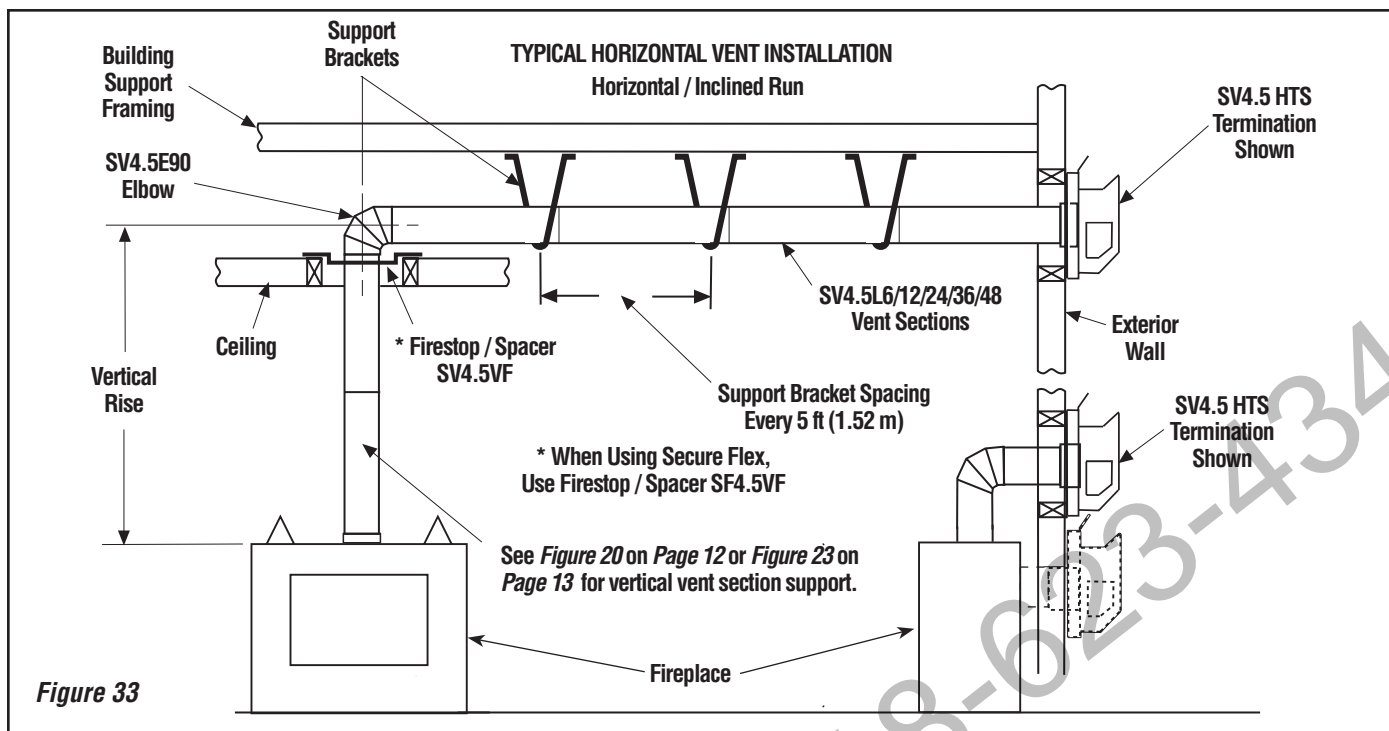

Figure 33
**G. Continue installation of horizontal/inclined sections** - Continue with the installation of the straight vent sections in horizontal/inclined run as described in **Step C**. Install support straps every 5 ft. (1.52 m) along horizontal/inclined vent runs using conventional plumber's tape. **See Page 17, Figure 33. It is very important that the horizontal/inclined run be maintained in a straight (no dips) and recommended to be in a slightly elevated plane, in a direction away from the fireplace of 1/4" rise per foot (20 mm per meter) which is ideal, though rise per foot run ratios that are smaller are acceptable all the way down to at or near level.** Use a carpenter's level to measure from a constant surface and adjust the support straps as necessary.
See Figure 33 on Page 17, and Figures 36-42 on Pages 19 to 21 and their associated Horizontal Vent Table illustrate the various horizontal venting configurations that are possible for use with these appliances. **Secure Vent** pipe applications are shown in these Figures; **Secure Flex** pipe may also be used. A Horizontal Vent Table summarizes each system's minimum and maximum vertical and horizontal length values that can be used to design and install the vent components in a variety of applications.
**I. Continue installation of horizontal/inclined sections** - Continue with the installation of the straight vent sections in horizontal/inclined run as described in **Step E**. Install support straps every 5 ft. (1.52 m) along horizontal/inclined vent runs using conventional plumber's tape. See *Figure 33*. **It is very important that the horizontal/inclined run be maintained in a straight (no dips)** and recommended to be in a slightly elevated plane, in a direction away from the fireplace of 1/4" rise per foot (20 mm per meter) which is ideal, though rise per foot run ratios that are smaller are acceptable all the way down to at or near level.